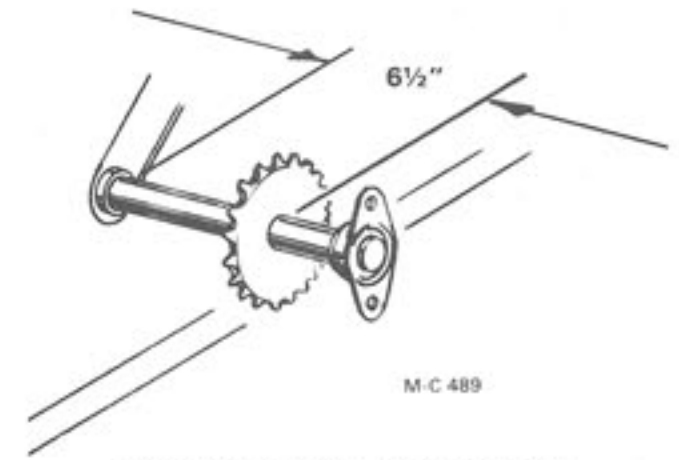

Figure 9 - Metering Roll Sprocket
1. Tap each metering roll sprocket (24 teeth) onto the metering roll shaft (hub facing in) until the distance from the front of the dryer to the face of the sprocket is 6 1/2", see Figure 9. Tighten the set screws.